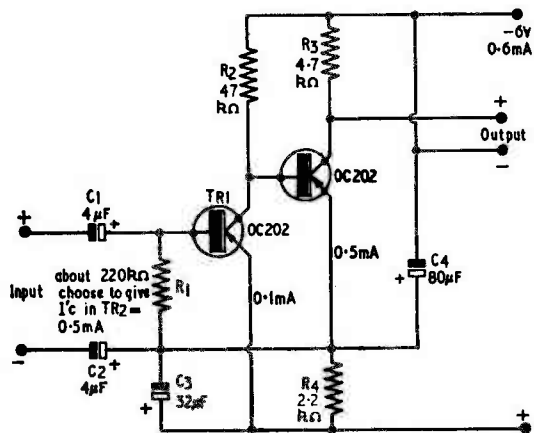

Fig. 2. The improved amplifier circuit. For sub-miniature construction, a printed circuit is recommended
A second improvement concerns the input arrangements. In the original circuit the input capacitor was duplicated, and two resistors and a further capacitor were added to protect against reversed polarity. (See Fig. 1.) In Fig. 2, it will be seen that these additional components have been dispensed with by the simple expedient of taking the earthy side of the input to the emitter of the output transistors instead of to the battery positive.
which the decoupling provided by C₆ was inadequate, were fed back to the input via R₅ as negative feedback, and so were lost. Thus the frequency response of the whole circuit was limited at the high frequency end by the choice of transistor, and at the low frequency end by negative feedback. With the arrangements shown in Fig. 2, the emitter of the output transistor is the "virtual earth", so
Components List (Fig. 2)
- R₁ See Fig. 2 (220k Ω approx.)